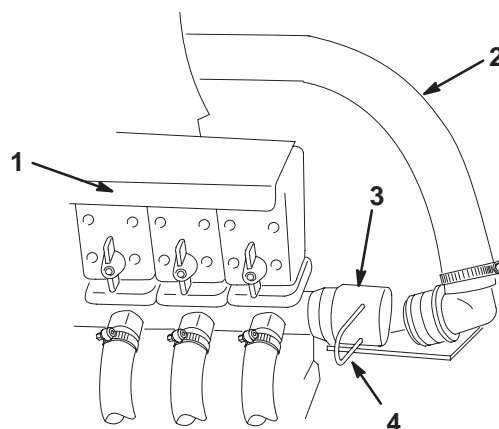

Figure 1
1. Remove the retainer securing the end of the boom supply hose to the straight fitting (located to the right of the boom supply valve) (Fig. 1).